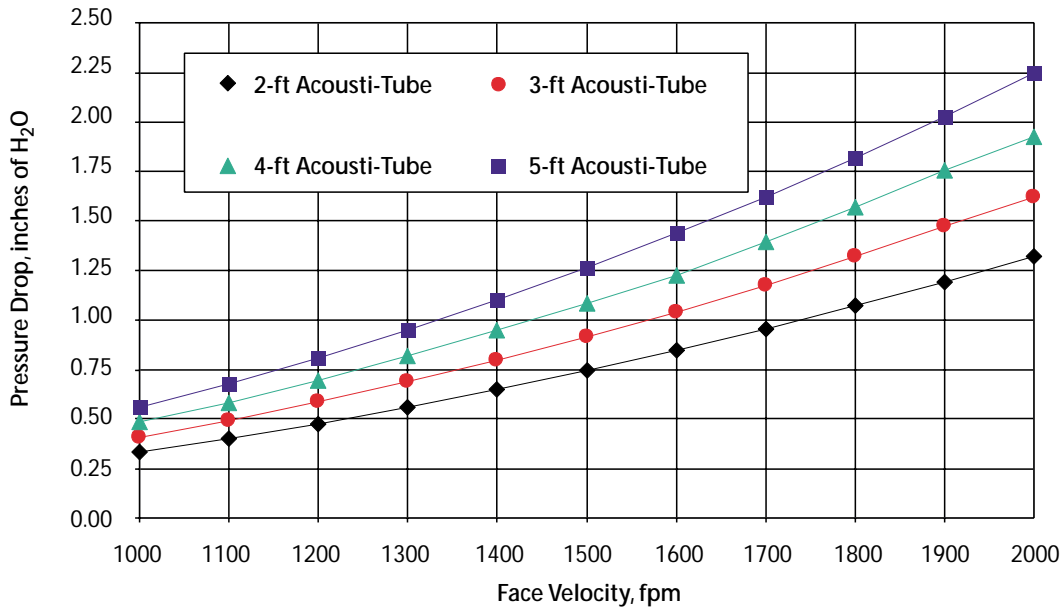

FIGURE 1. Pressure drop vs. silencer face velocity.
- 4** Choose the Acousti-Tube model for your application. In Figure 1, find the y-axis value for the allowable pressure drop. Read straight across the graph to the pressure drop curve.